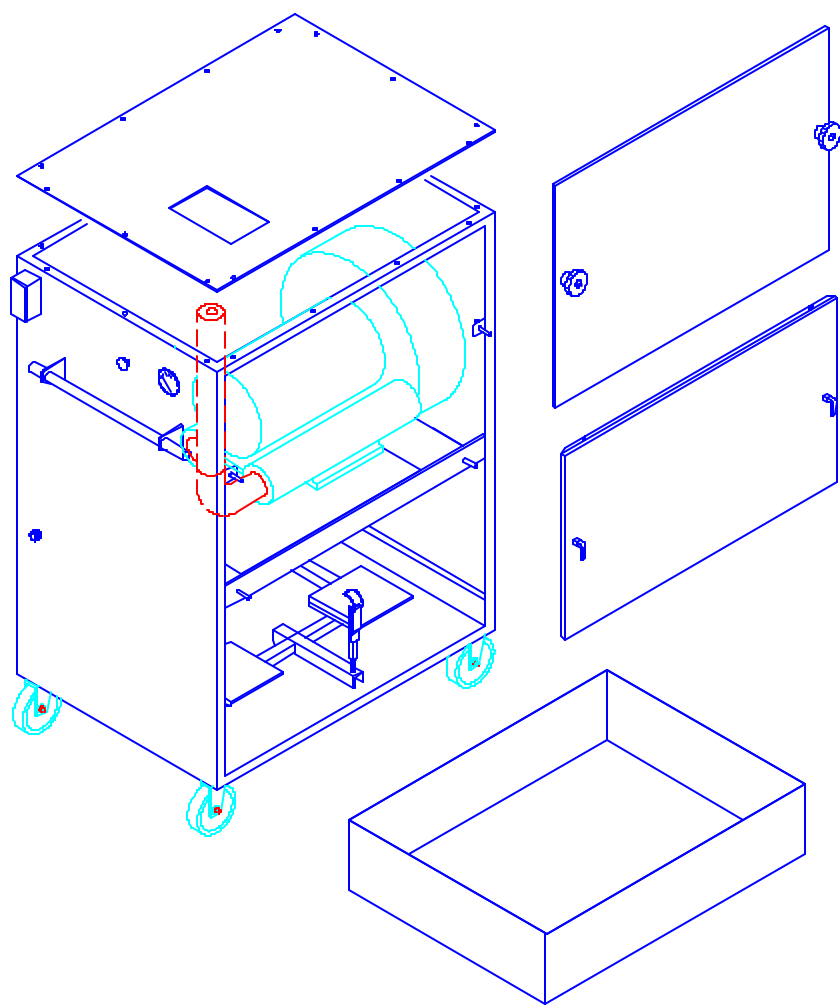

Figure 1.
The Airflow Systems Model V410 collects dust, welding smoke, and other dry pollutants in industrial plants, shops, schools and factories. The general theory of operation is that air bearing pollutants passes through the inlet and must make a 180° turn to pass through a spark screen where large particles fall out of the air stream. The particulate laden air then passes through the (2) main 95% cartridge filters where the +1 and sub-micron particles are captured. The main filters have 150 ft² collection area each for maximum intervals between service. The Vibra Pulse® is for filter cleaning with dry dust applications. After passing through the filters, the cleaned air is then discharged thru the top of the unit. Figure 1 shows general construction details.